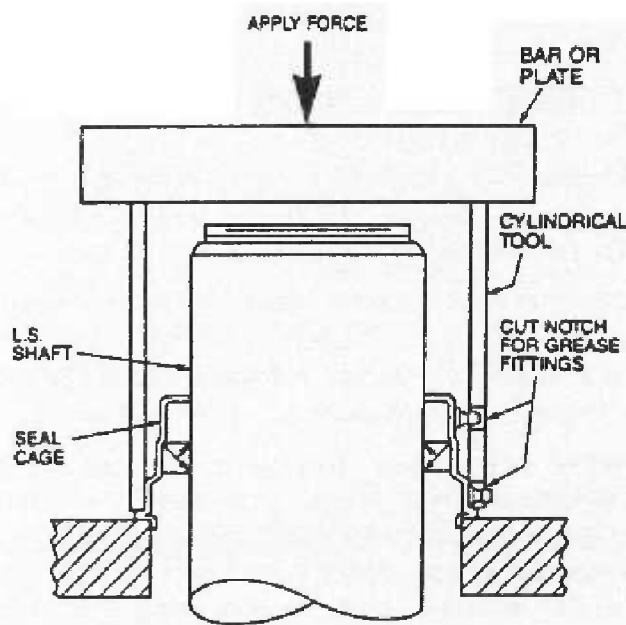

Figure 21 — Low-speed input-side seal cage installation tool
**SPECIAL TOOLS** — A special cylindrical tool helpful in re-installing the stamped low-speed input-side seal-cage may be fabricated by referring to Fig. 21, and to the dimensions shown in Table 19 below.